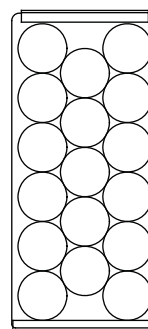

Fig B1
It will be necessary to position the cans alternately on the upper three shelves. This will allow for the storage of seventeen(17) 355ml cans (Fig.B) per shelf in each of the top three shelves,and ten (10) cans on the bottom (Fig.B1)for a total storage capacity of 61 beverage cans.